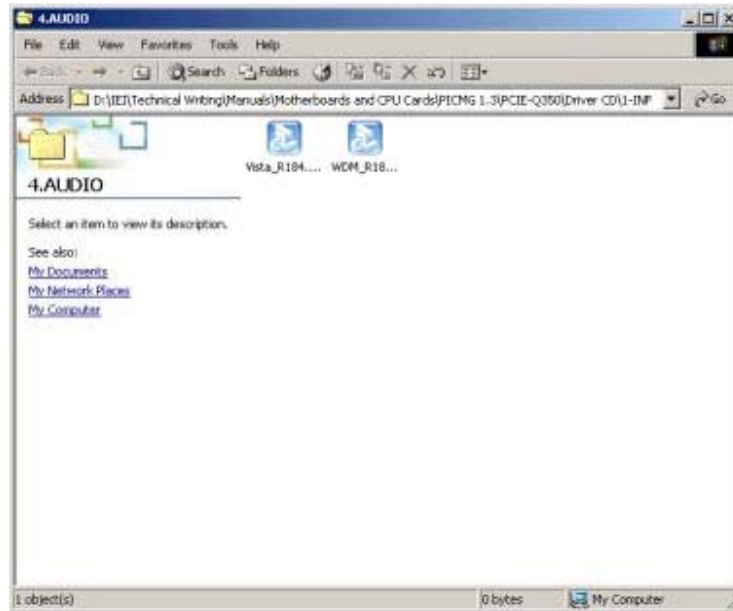

Figure 7-33: Select the Audio Driver Installation Icon
Step 2: A new window opens (**Figure 7-33**).
Step 3: Double-click the program setup icon in **Figure 7-33** according to the operating system.